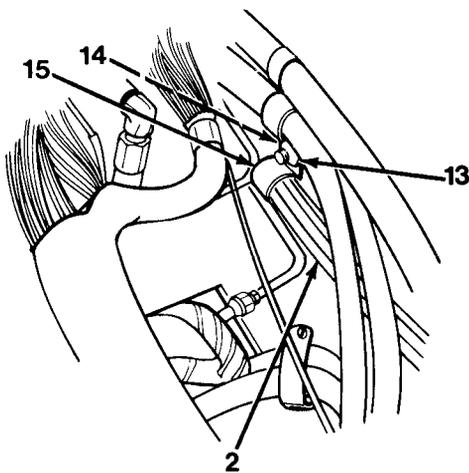

Figure 17-3
6. Remove nut (13), washer (14), clamp (15) and detach throttle cable (2, Figure 17-3). Install clamp (15), washer (14) and nut (13) on frame to prevent loss.